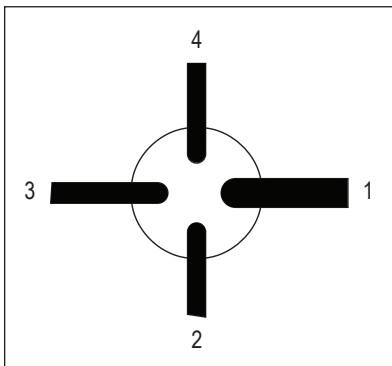

FIGURE 2 – TOP VIEW OF RUBBER SEAL
4. Refer to Figure 2. Assess which cables will be routed through the rubber seal.